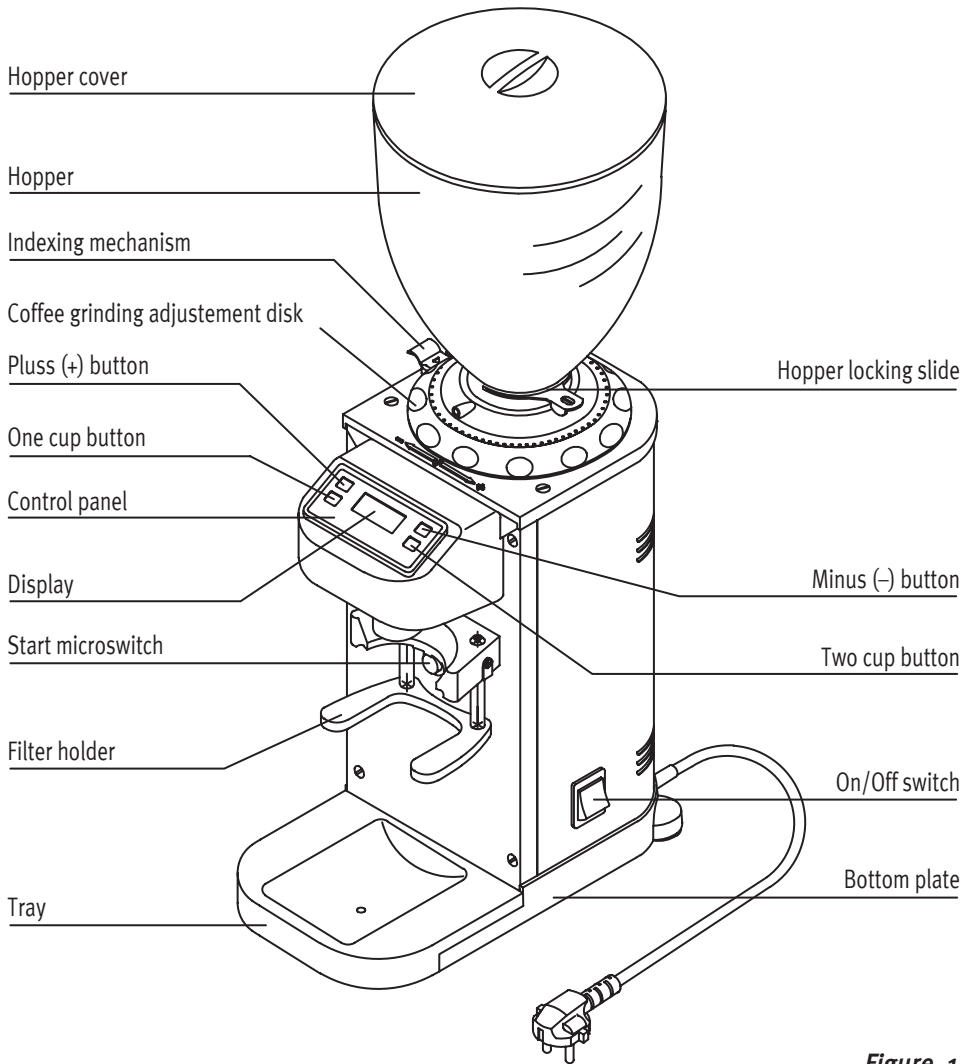

Figure. 1
- THE HOPPER MUST BE FASTENED TO THE GRINDER BY MEANS OF THE RELEVANT SCREW which must be inserted in the threaded hole located on the coffee grinding Adjustment disk (fig. 1).
Check that the hopper is positioned correctly on the appliance. Close the Hopper locking slide (fig. 1) and fill the hopper with coffee beans. Open the slide to allow the coffee beans to fall in the grinding chamber.
Use the **Adjustment disk** located under the hopper (fig. 1), for obtaining a finer or coarser grinding result.
The Adjustment disk is functional only when the Indexing mechanism (fig. 1) is hold down.
The appliance's motor is protected against overheating by a thermal protection which, when tripped, cuts off the motor's power supply. If the protection trips as a result of anomalous operation, such as jamming the grinding blades, the appliance must be turned off using the ON/OFF switch (fig.1), DISCONNECTED FROM THE MAINS, AND CONTACT A LICENSED TECHNICIAN.
- Close the **Hopper locking slide** (fig.1).
- By keeping the **Indexing mechanism** pressed at all times, turn the **Coffee grinding adjustment disk** (fig.1) anti-clockwise until it is fully released.
- By keeping the **Indexing mechanism** pressed at all times, turn the **Coffee grinding adjustment disk** (fig.1) clockwise until it is tightly fastened.
- Check that the Coffee grinding adjustment disk indicator (fig.1) is close to 0.
- By keeping the **Indexing mechanism** pressed, turn the **Coffee grinding adjustment disk** (fig.1) anti-clockwise, until its indicator is indexed to 1.
- Start the machine by pressing the start micro switch (fig. 1), **JUST ONCE**. If you hear the sound of metal scraping turn the **Coffee grinding adjustment disk** (fig.1) anti-clockwise until its indicator is indexed to 2.
- Start the machine again by pressing the start micro switch (fig.1), **JUST ONCE** to make sure that you do not hear any sound of metal scraping.